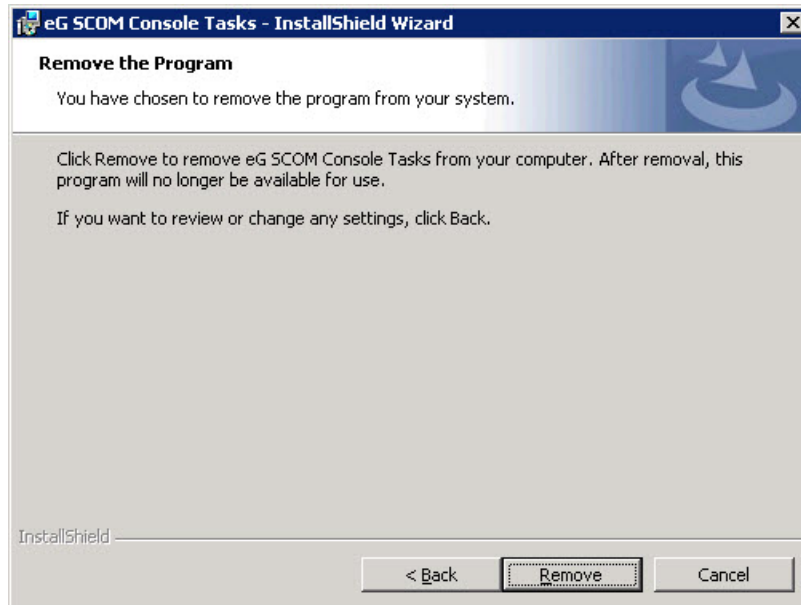

Figure 4.53: Clicking the Remove button
6. Then, click the **Remove** button in Figure 4.53 to confirm removal of the eG Console Tasks application.